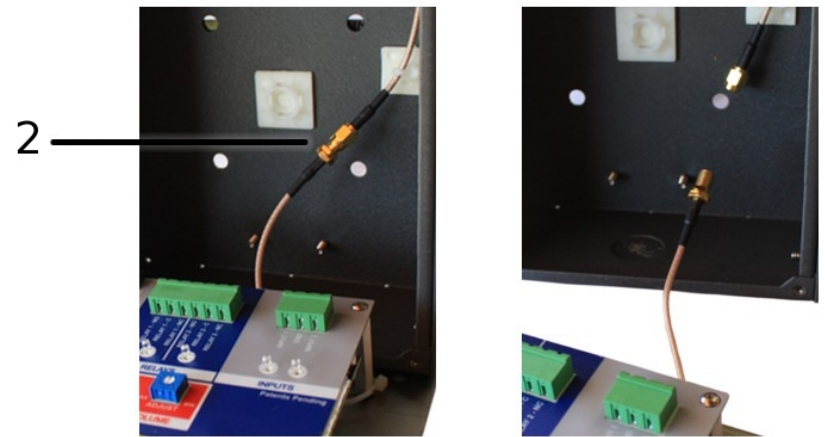

Figure 4
- 2) Disconnect 6-inch antenna extension cable inside enclosure. (Figure 4)